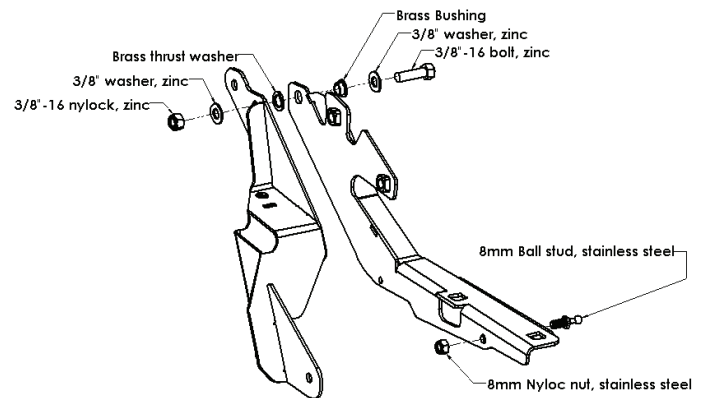

Figure 13
8. Using a 10mm open end wrench and 13mm socket wrench, install the ball joint, flat washer and M8 Nylock nut from the provided hardware kit, snap the OEM air spring to the ball stud on the upper bracket. (50172-HW) (Figure 13)